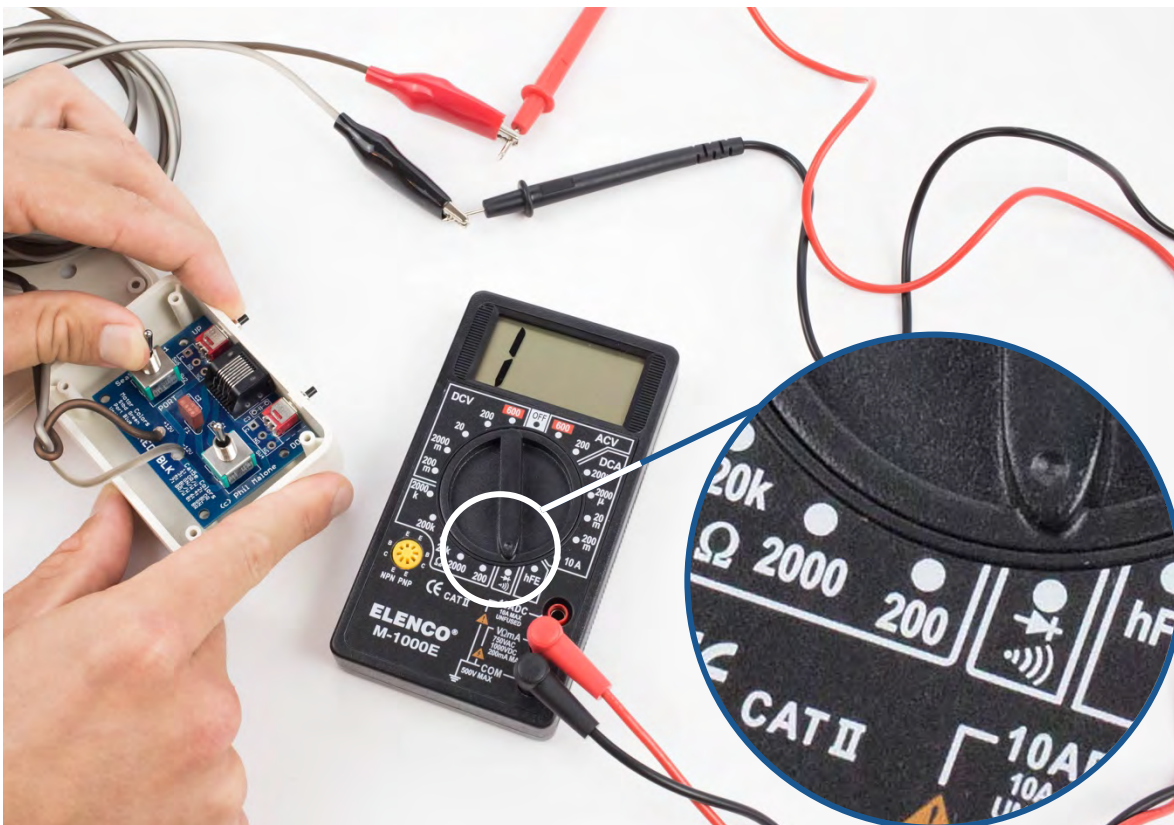

Figure 35
- ❑ Set the dial on the digital multimeter to measure continuity as shown in the insert of Figure 35. If your multimeter does not have a continuity setting, set it to measure Ohms (Ω) using one of the lower Ohms settings such as 200 or 2000.
The multimeter should still be set to measure continuity and the alligator clips should still be connected to the probe ends of the multimeter. (Refer back to Figure 35, if necessary.)